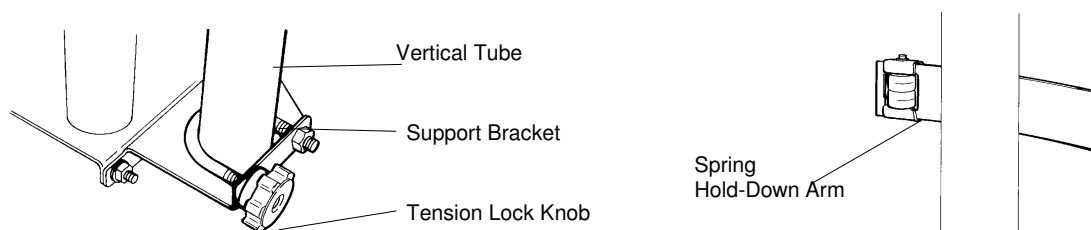

Figure 46: Installing the Hold-Down Bar
1. Attach the top and bottom support brackets (Figure 46) with four 5/16" x 3/4" (7.9mm x 19.05mm) cap screws and nuts. The top bracket is marked "T" and the bottom bracket is marked "B".
3. Attach the top and bottom tension locks as shown in Figure 46.